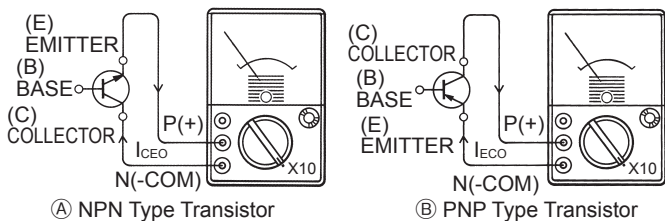
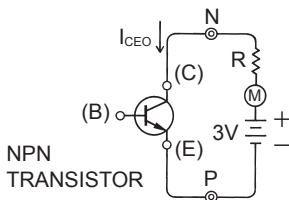

Fig. 5
Fig. 6
- (1) Use the resistance measuring ranges to test transistors.
- (2) Insert the red and black test leads into the P(+) and N(-COM) terminals respectively.
- (3) With the tips of the test leads shorted together, turn the ohm zero adjust knob so that the meter pointer lines up with the "0" mark on the right end of the ohm scale.
- (4) Connect the test leads to the transistors according to their polarity, as shown in Fig. 5 (A) for the NPN transistor and Fig. 5 (B) for the PNP transistor.
- (5) Fig. 5 may be represented by an electrical circuit (Fig. 6).